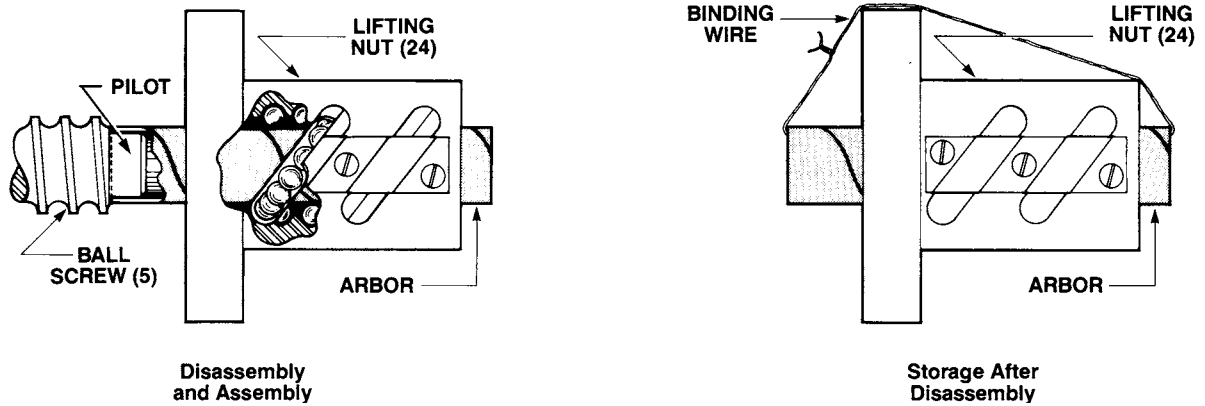

Figure 2-1. Ball Nut Storage Arbor
2. Disassembly of Lifting Nut (24) From Ball Screw (5) (Refer to Figure 2-1).
- 19. All models except those with expansion plugs - Install pipe (4) in shell (3) for upright models or in shell cap (2) for inverted models.
- 20. Refer to Figure 2-1 for reassembly of lifting nut (24) from tube arbor to ball screw (5).
- b. Position arbor over ball screw (5) pilot.